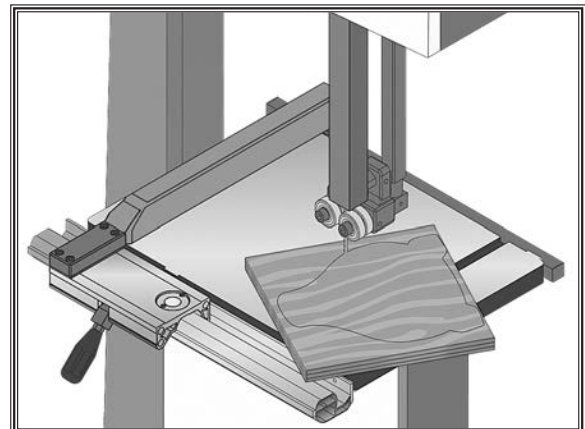

Figure 43. Example of a stacked cut setup.
6. Cut stack of pieces as though you were cutting a single piece. Follow your layout line with blade kerf on the waste side of your line (see **Figure 43** for an example of a stacked cut setup).